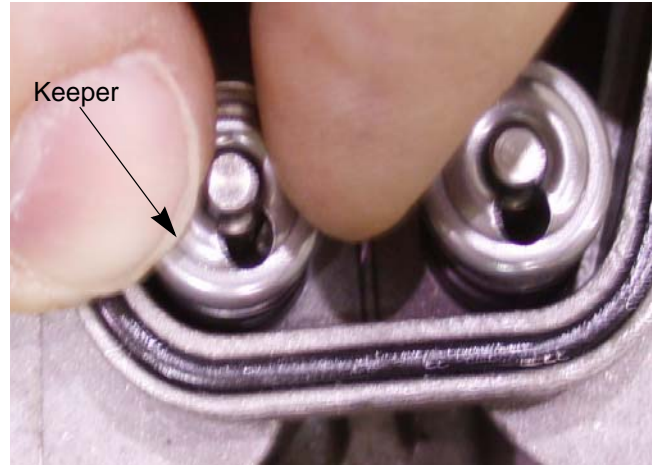

Figure 8.18
- 6c. While holding the valve in place, press down on the keeper with two fingers and slide it into the notch on the valve stem. See Figure 8.18.